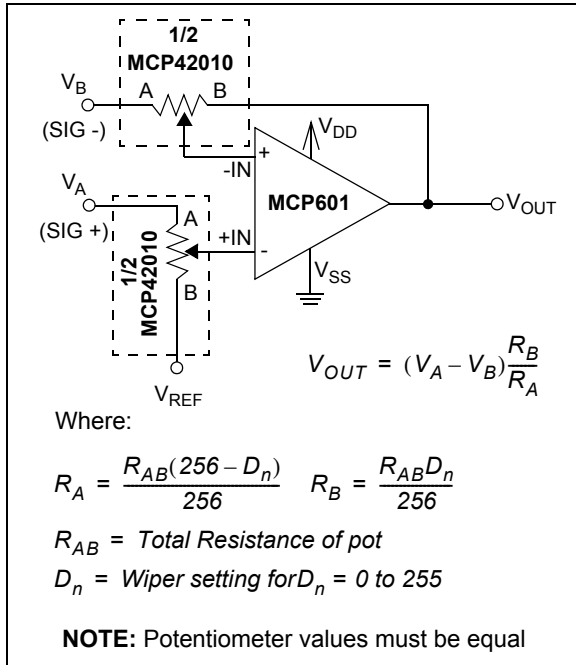

**FIGURE 4-6:** Gain vs. Code for inverting and differential amplifier circuits.
In order for these circuits to work properly, care must be taken in a few areas. For linear operation, the analog input and output signals must be in the range of  $V_{SS}$  to  $V_{DD}$  for the potentiometer and input and output rails of the op-amp. The circuit in Figure 4-4 requires a virtual ground or reference input to the non-inverting input of the amplifier. Refer to Application Note 682, "Using Single-Supply Operational Amplifiers in Embedded Systems" (DS00682), for more details. At power-up or reset (RS), the resistance is set to mid-scale, with  $R_A$  and  $R_B$  matching. Based on the transfer function for the circuit, the gain is -1 V/V. As the code is increased and the wiper moves towards the A terminal, the gain increases. Conversely, when the wiper is moved towards the B terminal, the gain decreases. Figure 4-6 shows this relationship. Notice the pseudo-logarithmic gain around decimal code 128. As the wiper approaches either terminal, the step size in the gain calculation increases dramatically. Due to the mismatched ratio of  $R_A$  and  $R_B$  at the extreme high and low codes, small increments in wiper position can dramatically affect the gain. As shown in Figure 4-3, recommended gains lie between 0.1 and 10 V/V.
An example of a differential input amplifier using digital potentiometers is shown in Figure 4-7. For the transfer function to hold, both pots must be programmed to the same code. The resistor-matching from channel-to-channel within a dual device can be used as an advantage in this circuit. This circuit will also show stable operation over temperature due to the low potentiometer temperature coefficient. Figure 4-6 also shows the relationship between gain and code for this circuit. As the wiper approaches either terminal, the step size in the gain calculation increases dramatically. This circuit is recommended for gains between 0.1 and 10 V/V.